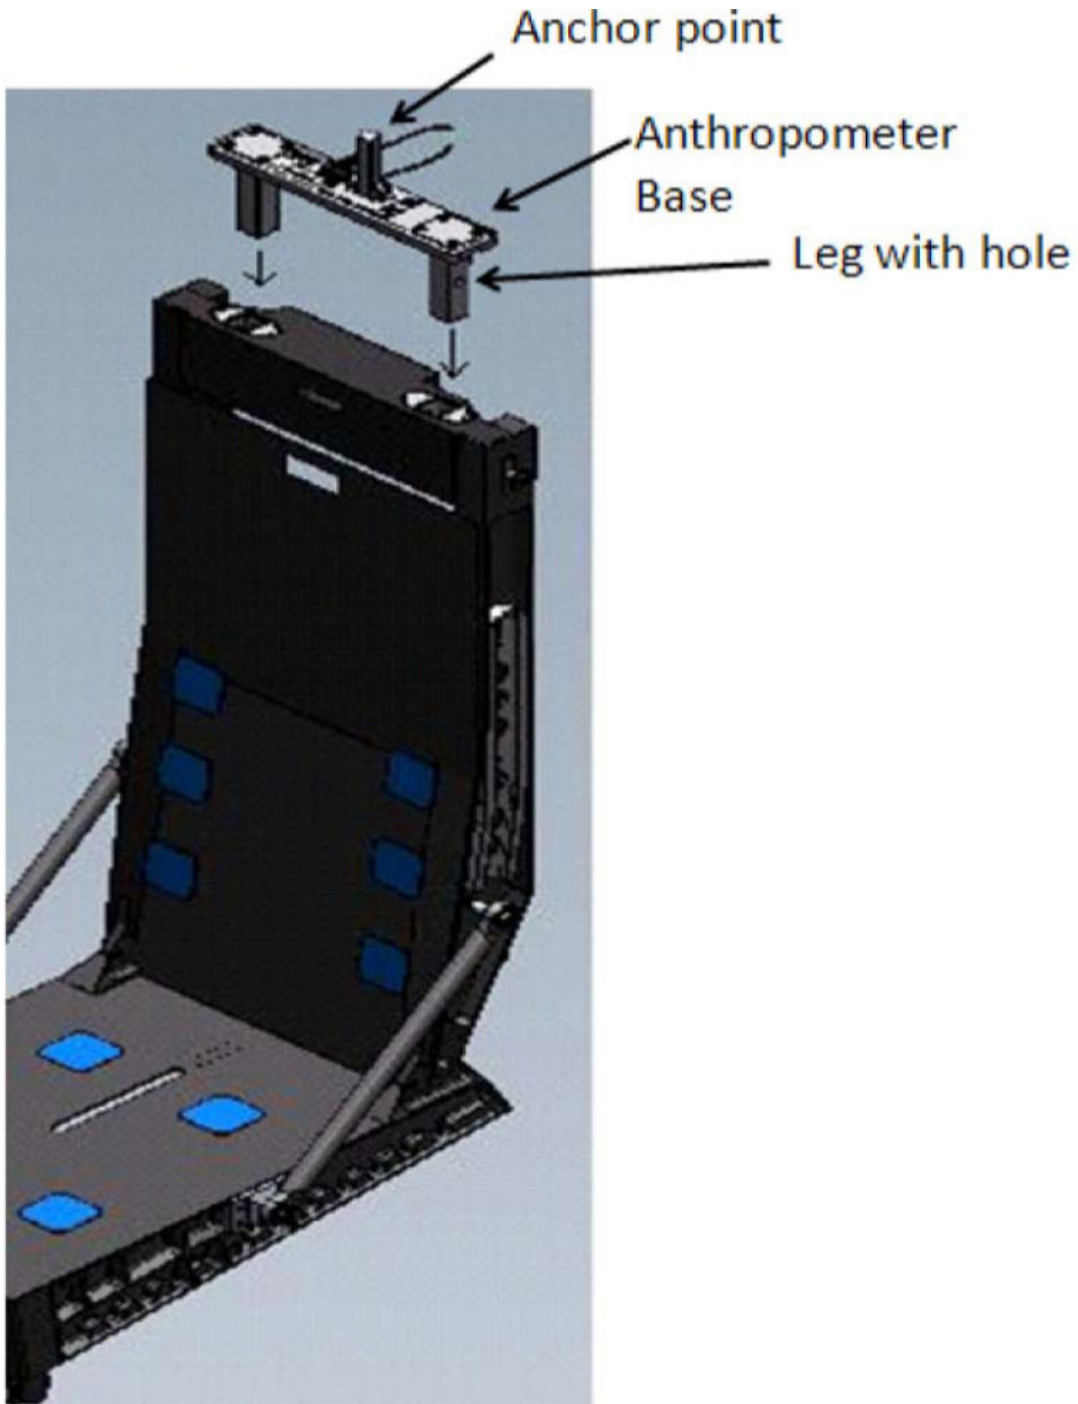

Figure 2. Anthropometer Base on CDR Seat.
- 2.6.2 To setup Anthropometer Base, hold Anthropometer Base by the anchor point, sliding the legs of the Anthropometer Base into the head rest holes on top of the seat. Refer to Figure 2.